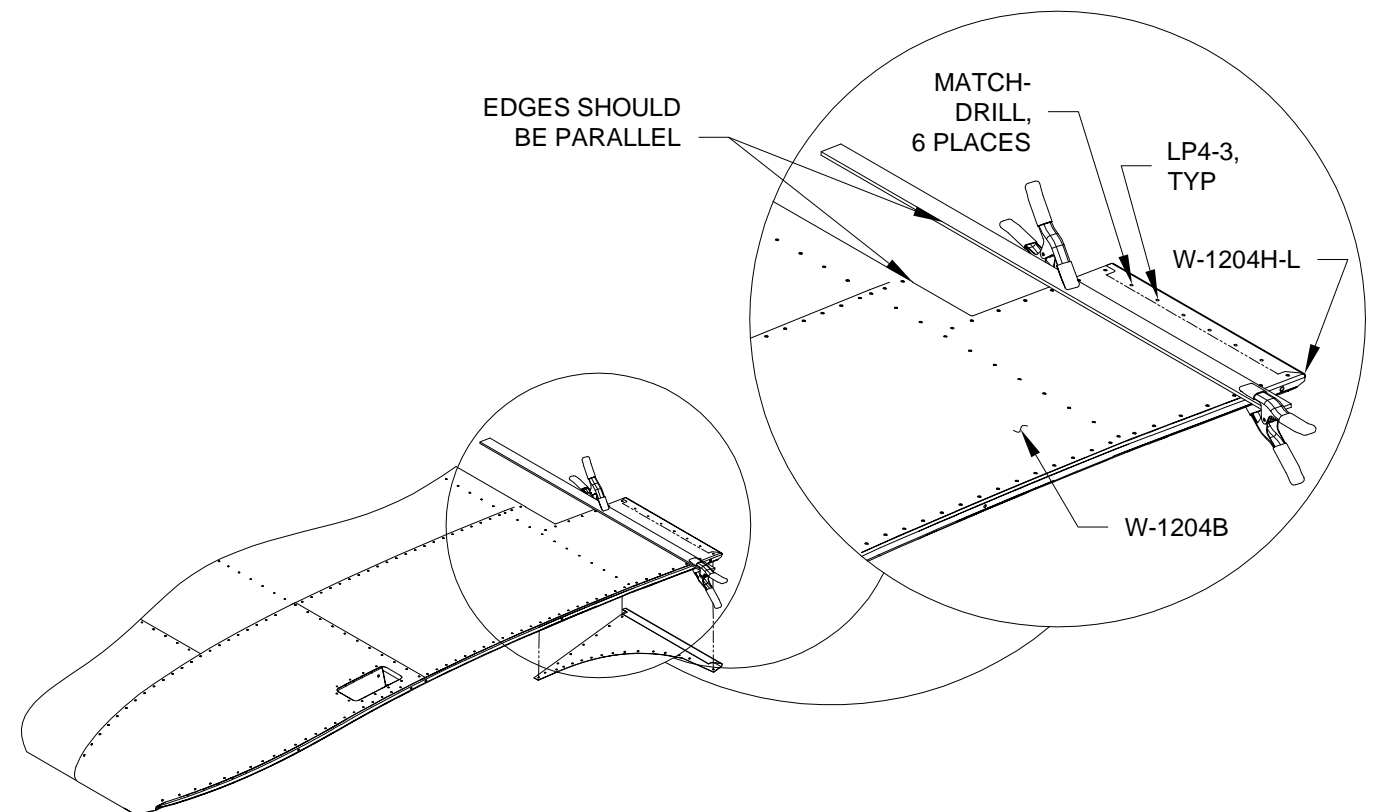

FIGURE 4: ATTACHING THE WING TIP TRAILING EDGE
Step 3: Cleco the W-1204H-L Wing Tip Trailing Edge to the W-1204D-L Wing Tip Close Out and to the W-1213-L Tip Rib. Clamp a straight edge on top of the W-1204B Wing Tip Aft Skin as shown in Figure 4 and confirm that the wing tip trailing edge is parallel to the trailing edge of the wing as shown in Figure 4. When satisfied with the placement, match-drill #30 the wing tip trailing edge to the wing tip aft skin. Rivet the wing tip trailing edge to the wing tip aft skin, wing tip rib, and wing tip close out.